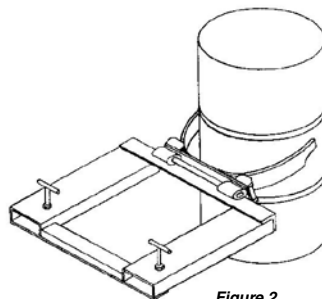

Figure 2
- Raise unit and approach drum so that the jaws come in contact with the drum 6. Move unit forward onto drum, lowering jaws slowly as you move. Jaws will open and close around drum. (Figure 2).